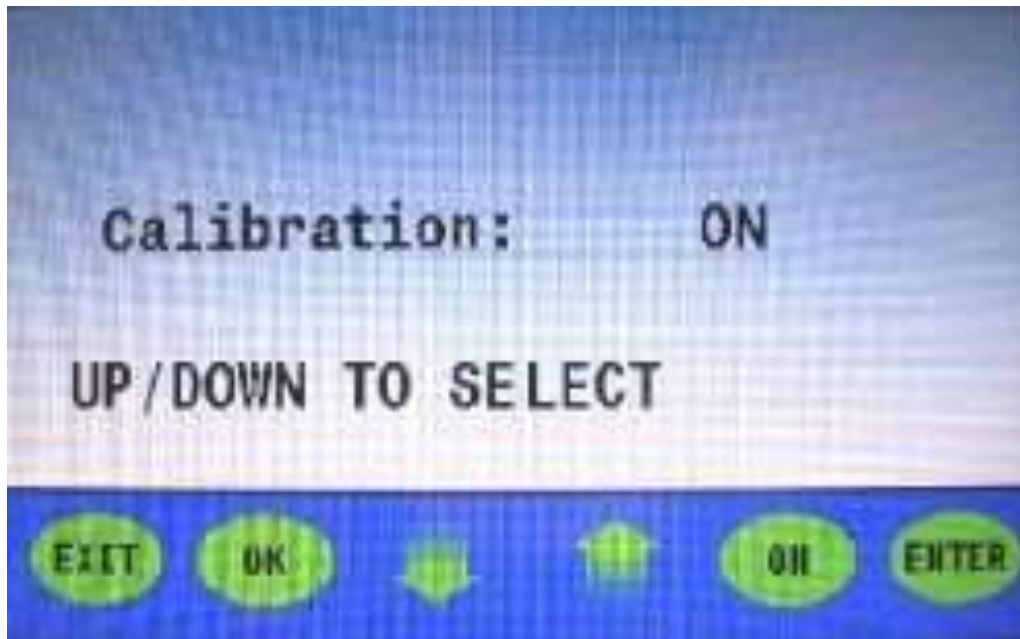

Figure 9
28. Press the up or down arrow; change “Table” to “ON” (figure 9). Press the Enter button.